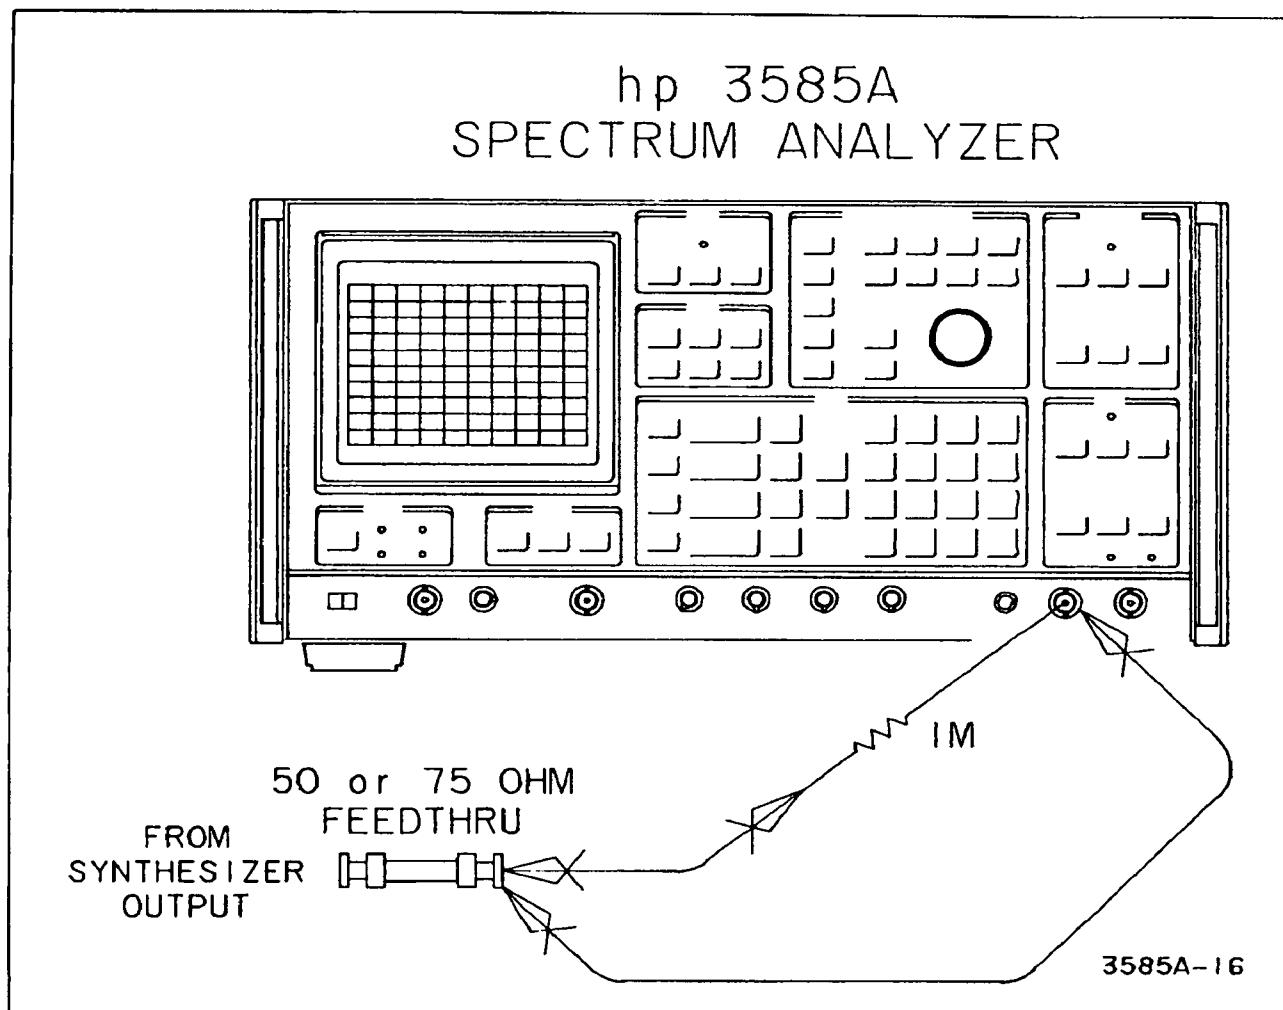

Figure 4-18. 1 M ohm Input Impedance Test.
e. Using short clip leads, insert the  $1\text{ M}\Omega$  resistor between the output of the termination and the 3585A  $1\text{ M}\Omega$  input as shown in Figure 4-18.